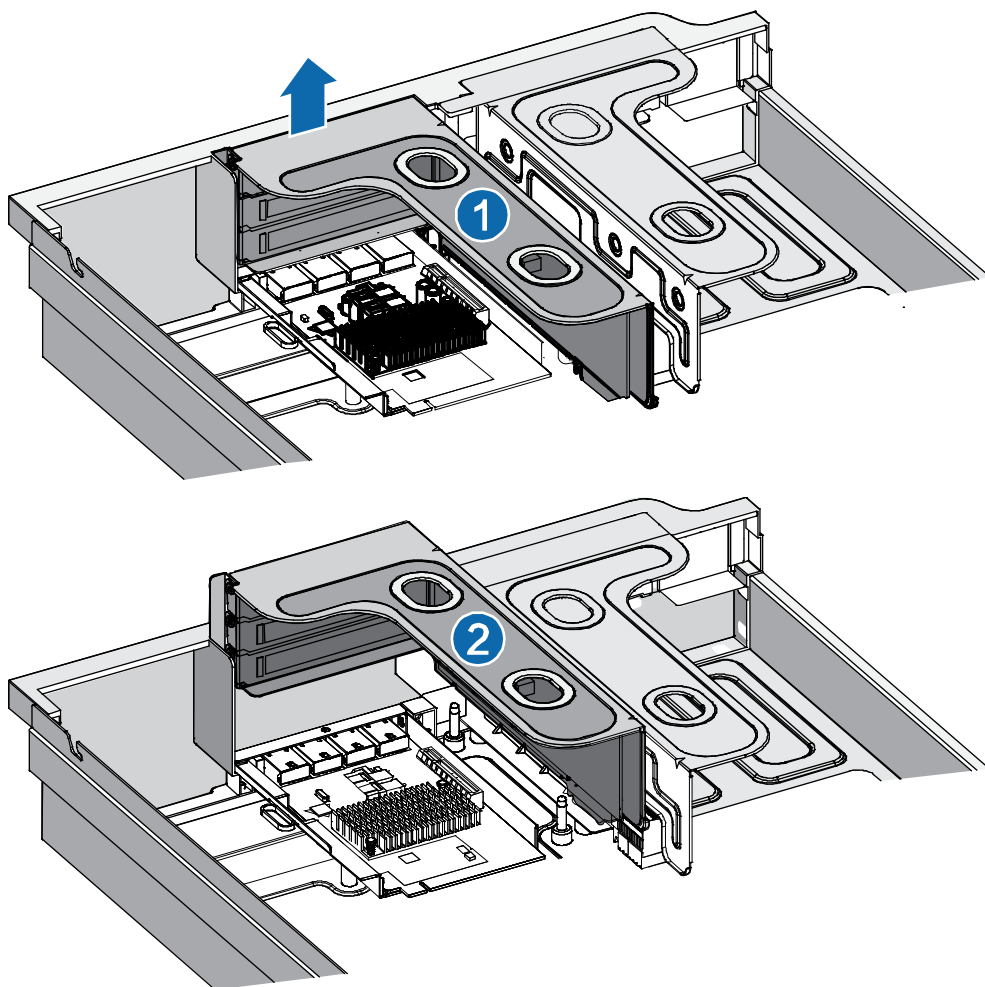

Figure 2-19 Installation of expansion card
Step 2 Take off PCIE adapter, shown as the figure 2-19.